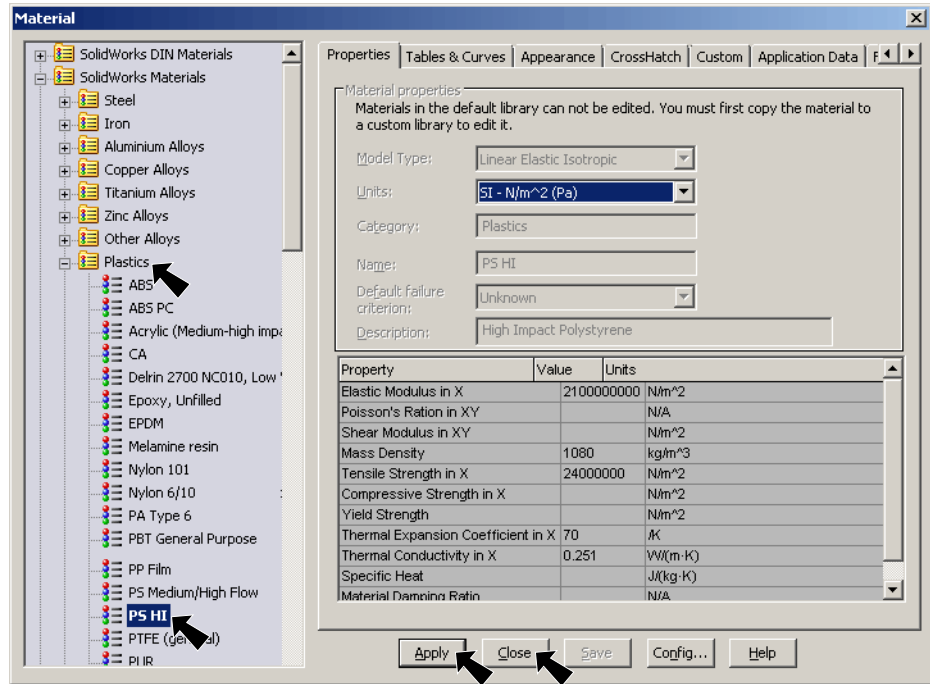

Fig. 43
Step 2. Expand Plastics (click +) in the material tree and select PS HI, Fig. 43. Click Apply and Close, Fig. 43.